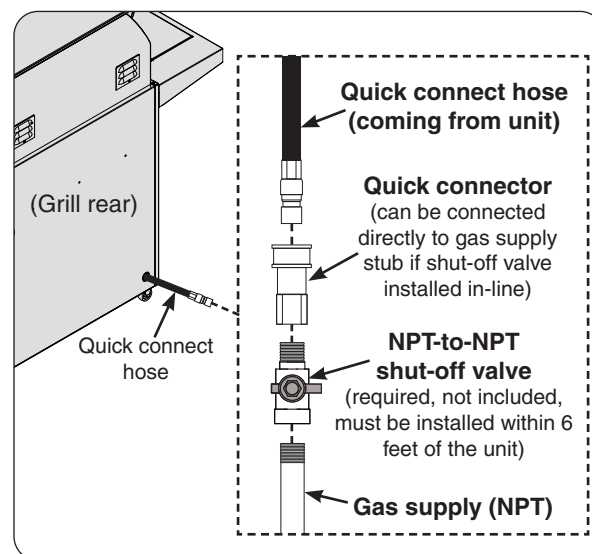

Fig. 16-2 Connecting to a gas line
2. A shut-off valve is required within 6 feet of the unit. Connect the quick connect hose to the shut-off valve (NPT) OR gas supply (NPT) using a pipe joint compound resistant to all gasses (see Fig. 16-2). Tighten securely.